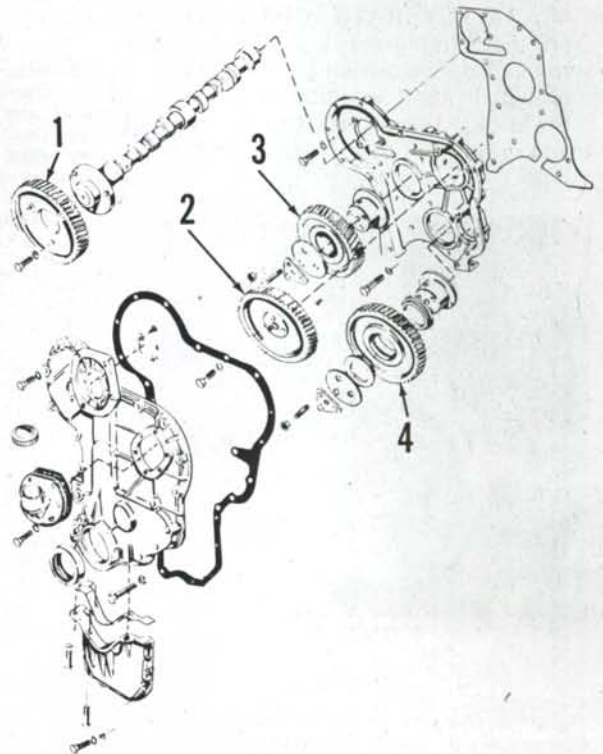
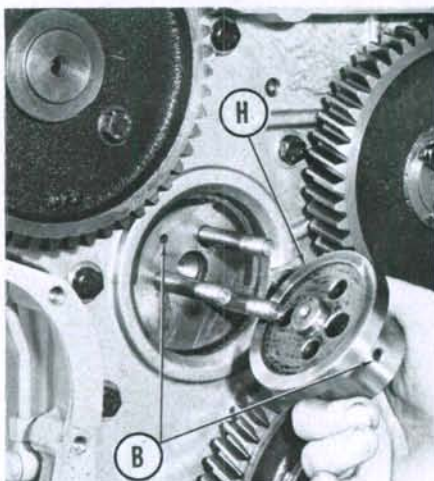

Fig. 58—View of timing gear cover, idler gears (3 and 4), pump drive gear (2) and camshaft drive gear (1).
Fig. 61—Oil feed passage (B) in cylinder block and idler gear hub (H) must be aligned when hub is installed.
**53. IDLER GEARS AND HUBS.** Idler gears should have a diametral clearance of 0.058-0.119 mm (0.0023-0.0047 inch) on idler gear hubs. Idler hub retainer plates and the flanged bushings in the lower idler gear (4—Fig. 58) are renewable. End play of assembled idler gear should be 0.10-0.20 mm (0.004-0.008 inch). Hubs (H—Fig. 61) are interchangeable for the two idler gears.
**54. CAMSHAFT GEAR.** The cap screw holes in camshaft and camshaft gear (1—Fig. 58) are evenly spaced and the gear can be installed in three positions, only one of which is correct. The camshaft gear is correctly installed when the stamped "D" on camshaft gear is aligned with the stamped "D" on camshaft mounting flange as shown in Fig. 62.
**55. INJECTION PUMP DRIVE GEAR.** The injection pump drive (2—Fig. 58) is retained to the pump adapter by three cap screws. When installing the gear, align dowel pin (Fig. 63) with the slot in pump adapter (P), then install the retaining cap screws. The injection pump drive gear and adapter are supported by the injection pump rotor bearings.